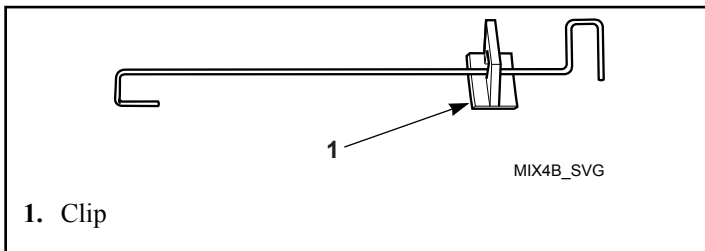

Figure 8
9. Remove clip from spring. Refer to *Figure 8*.